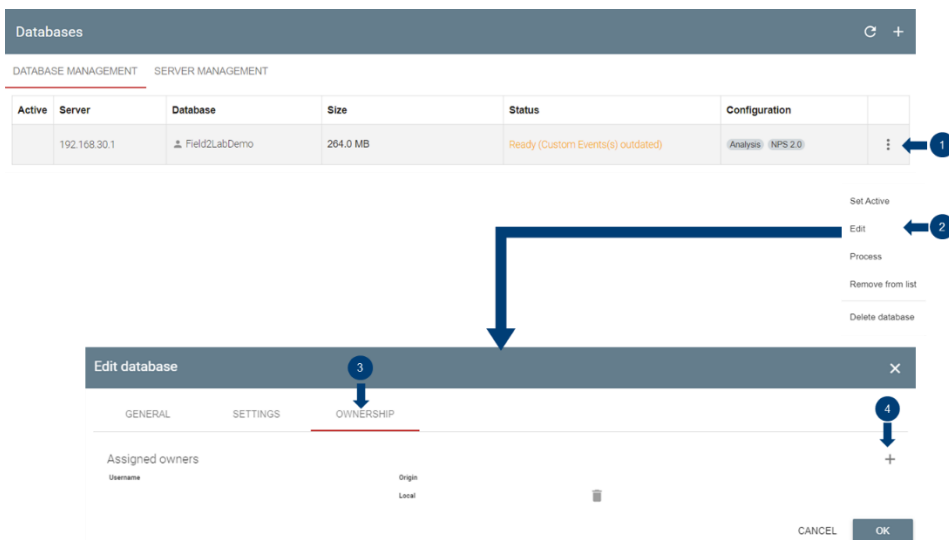

Fig. 2-5 Add more ownerships to a database
6. If this is a database intended not to be visible by other users on the system, select option 'Private database'. More ownerships can be added to a database optionally (see Fig. 2-5). This is required especially if 'shared link' function of SmartAnalytics is used (for details about shared link, see 2.2.3.1.2).
Shared link allows the data analysis to be shared between different users. With this approach, different users will have the same view of the analysis as the owner, e.g. the logfile under analyzing, the applied filter, time position etc. In case the belonging database is a private one, the user needs to be assigned as the ownership of the database in order to have the access to the shared link (see Fig. 2-5).